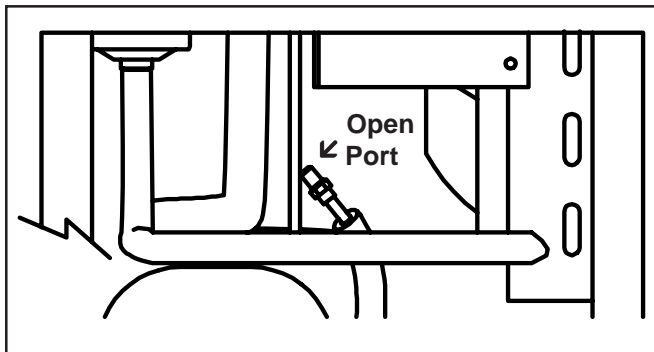

Figure 37. Filter Drier Replacement
6. Break the vacuum to (0 P.S.I.G.) with dry nitrogen, then with an open port, replace the filter drier using the appropriate brazing material. (Fig.37).